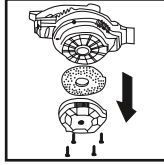

Fig. 2
2. Remove the four screws holding the entry cap and lift the cap (Fig. 2)